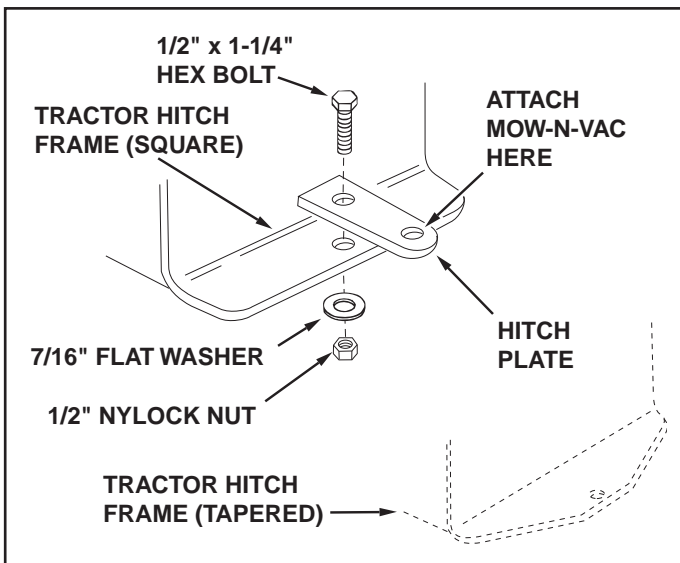

FIGURE 12
- (2) 3/4" Wrenches (only if figure 12 on page 12 is used)
Use a 1/2" x 1-1/4" hex bolt, a 7/16" flat washer and a 1/2" nylock nut. See figure 12.